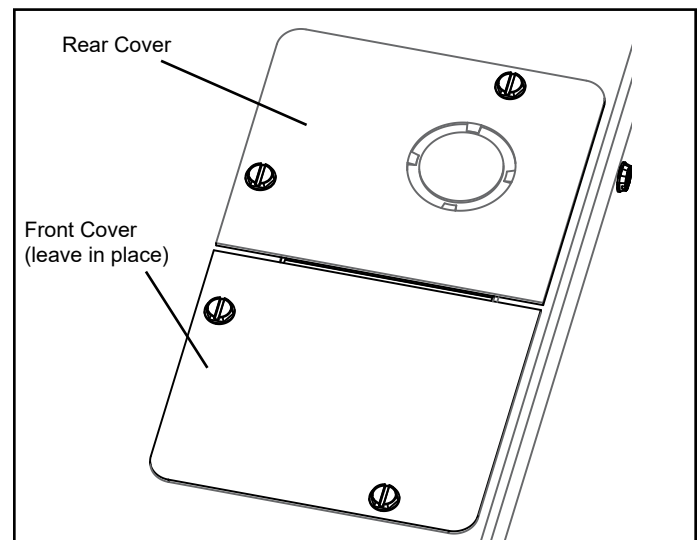

Figure 6.
1. Remove the two screws that secure the factory-supplied cover over the rear half of the internal junction box. Keep the front cover in place. See Figure 6.